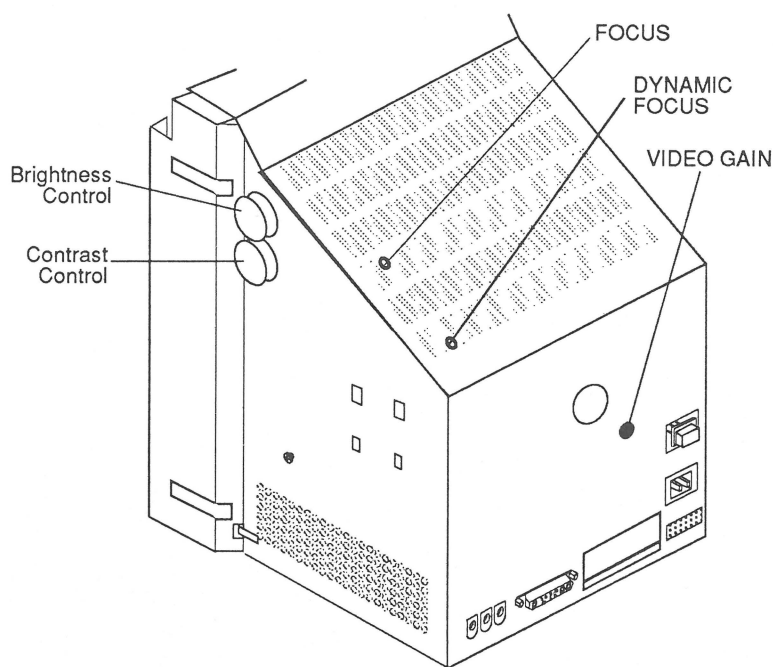

FIGURE 11
5. Set the brightness control (**Figure 11**) to midrange—the detent position. To identify the detent position, turn the knob and locate the place in the middle where the knob hesitates.
6. Set the contrast control (**Figure 11**) at maximum (full clockwise).
7. Using the insulated plastic screwdriver, successively adjust the following focus controls (**Figure 11**):